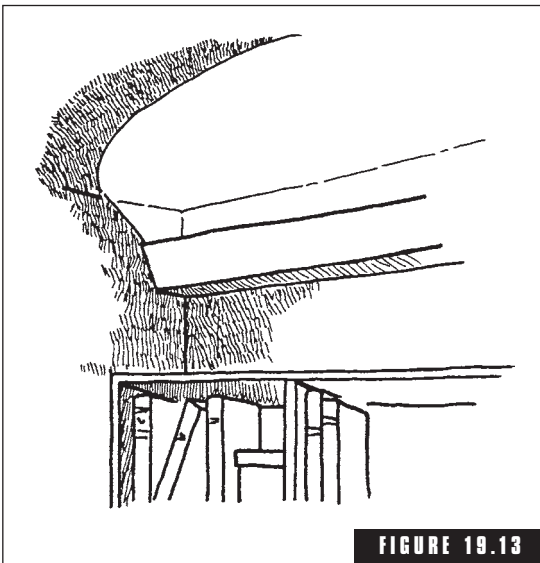

FIGURE 19.13
- **Cove**—light sources shielded by a ledge and casting light over the ceiling and upper wall, usually through indirect or upward lighting (Fig. 19.13).